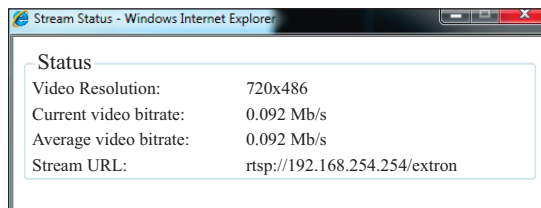

Figure 29. Stream Status Window
- ⑦ **View status button** — This button is used to view the status of the stream. When pressed, a window appears that provides the video resolution, current video bit rate, average video bit rate, and the stream URL (see figure 29).